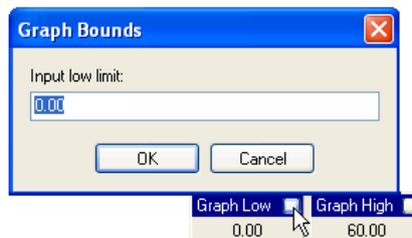

Figure 7.8.1c Graph limit setting.
6. If required, click on white square on the relevant 'Graph Low' or 'Graph High' title bar, and set the low and high values to appear with an associated bargraph (figure 7.8.1c).